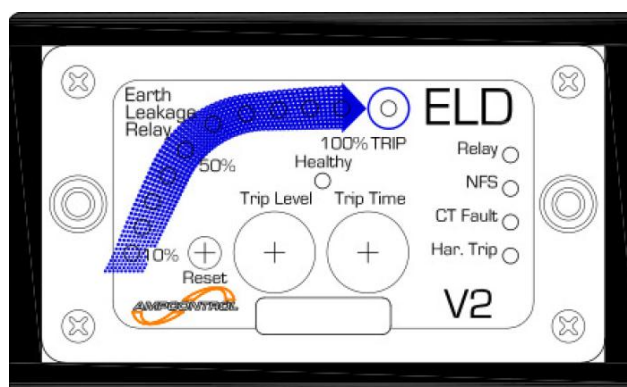

Figure 2: ELD V2 Front Fascia
The front fascia of the ELD V2 relay consists of a two switches for selection of the Trip Level and Delay Time, five (5) indication LEDs for diagnostics support and a ten-segment LED bar graph to display the level of Earth Leakage current being measured. Figure 2 shows the front fascia of the relay.